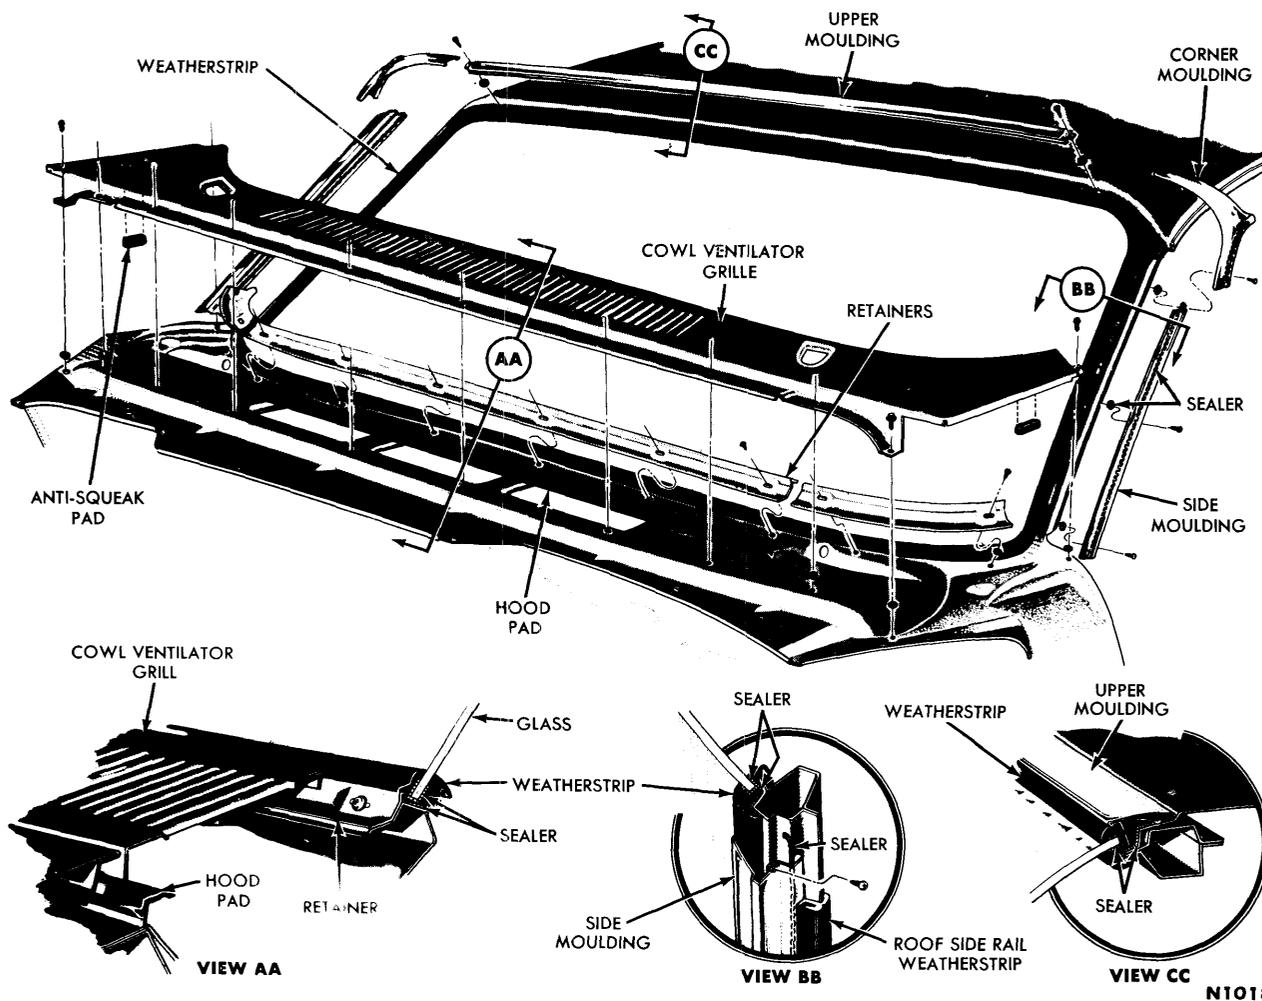

FIG. 14—Hardtop Model Windshield and Exterior Mouldings
corner mouldings (Fig. 14). Remove the windshield side mouldings, and then remove the upper moulding retaining screws. On a convertible model, remove the upper moulding.
4. Remove the windshield center and each side retainer (Fig. 14).
18. Apply rubber cement to the body right and left front pillar, and install the roof side rail weatherstrip (Fig. 14).